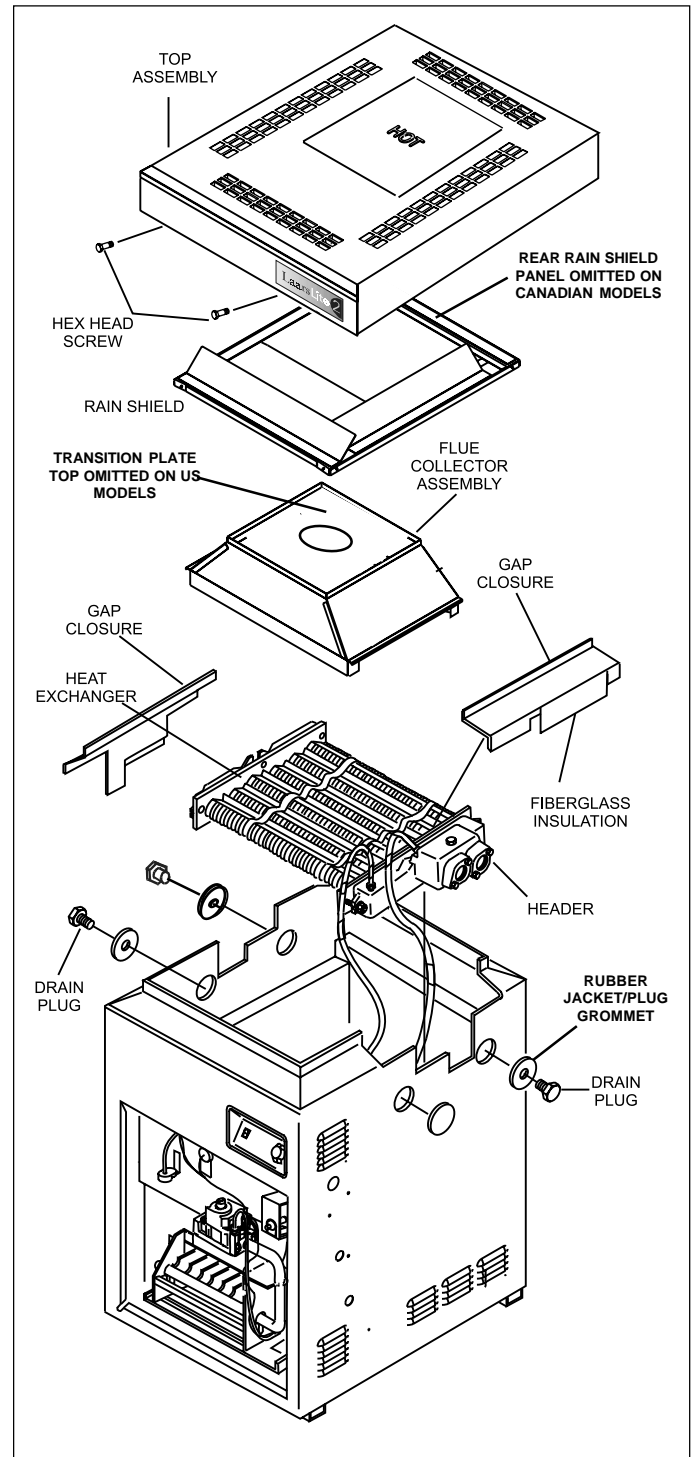

Figure 12. Heat exchanger reversal.
3. Remove all 8 hex-head screws fastening the top and lift the top assembly straight up (see Figure 12).
7. Remove the three rubber jacket/plug grommets and drain plugs (see Figure 12). One is located under the water connections on the right side. The other two are on the left side toward the front of the heater.